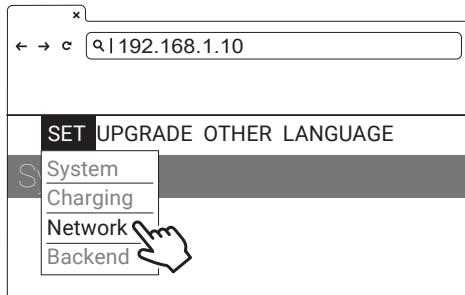

Figure 34. SET Menu
- 1) Select Network. See Figure 34.